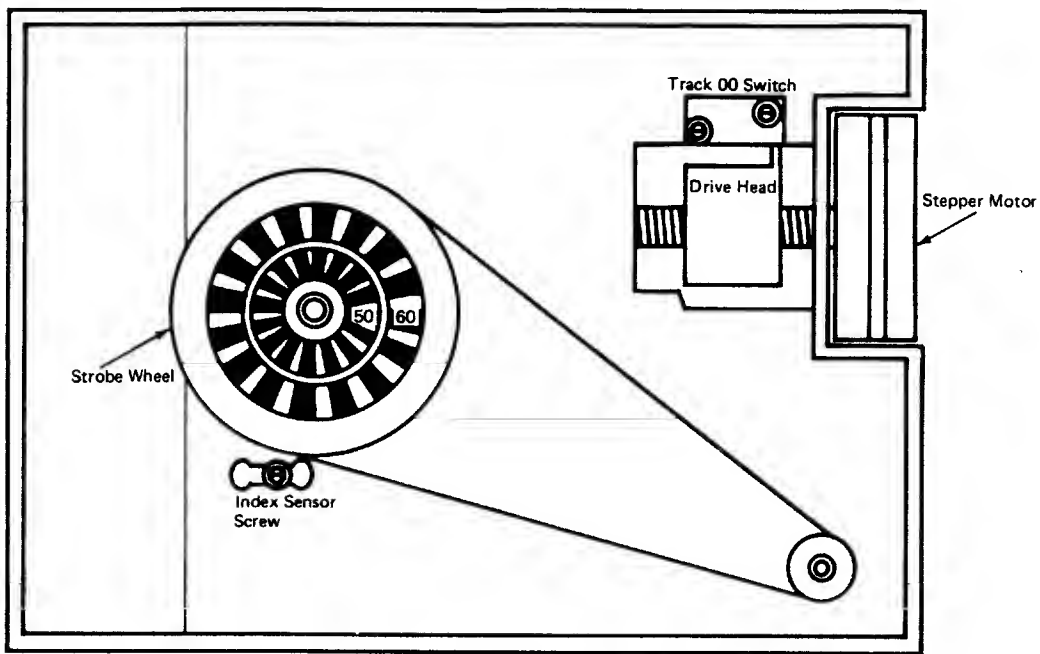

FIGURE 6-12. SIEMENS DISK DRIVE
- 6.3.2.9 Turn the drive unit so strobe wheel faces Technician. The strobe wheel has a black and white pattern as shown in Figure 6-12. The following adjustment must be made under fluorescent lighting. With 50 cycle lighting, use the inner strobe wheel pattern.
- 6.3.5.8 Loosen the mounting screw in the Index sensor mounting block on the underside of disk drive. (See Figure 6-12.)